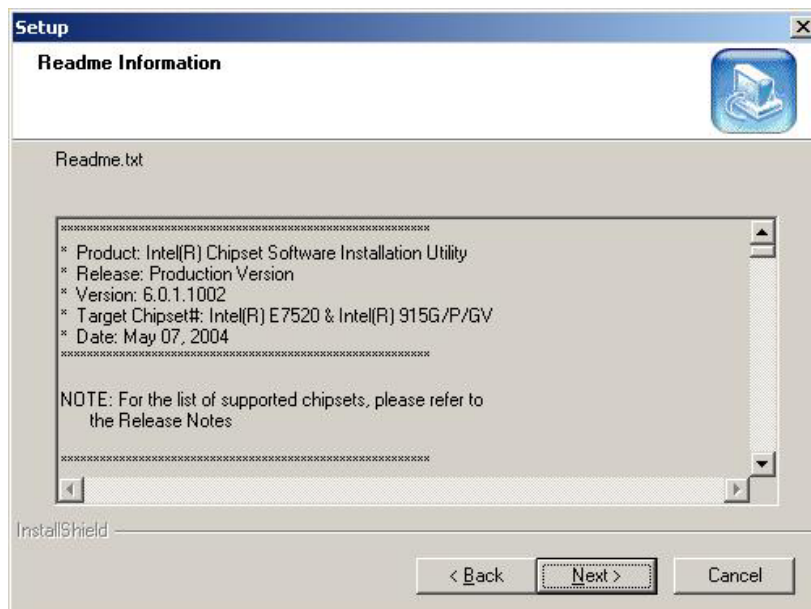

Figure 6-4: Readme Information
Step 5: Agree to the license terms by clicking **"Yes"**. The **"Readme"** in **Figure 6-4** appears.